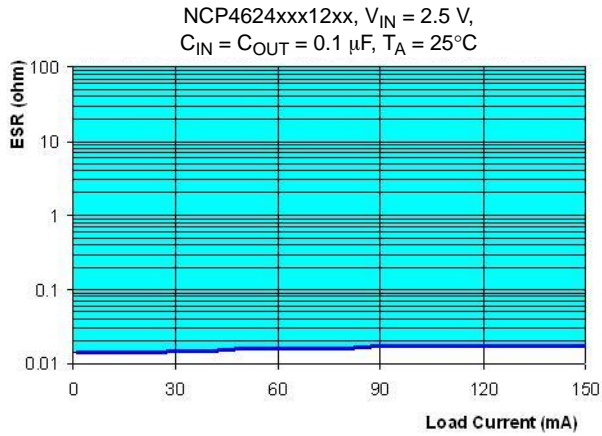

Figure 42. ESR vs. Load Current
- The relation between Output Current  $I_{OUT}$  and ESR of the output capacitor are shown below in Figures 42, 43 and 44.